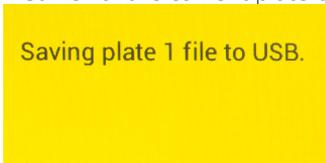

Fig. 27—When you press Export, the message indicates which plate data is being stored.
- **Export** starts the storage of all the plate files, overwriting any duplicate files. When you select it, a message appears describing which plate is being stored (Fig. 27). The number of plates could be one, two or three, depending on how many were collected before exporting.